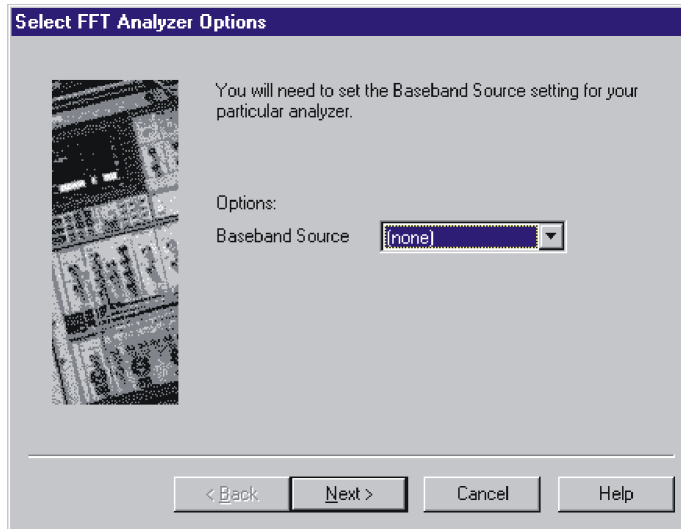

Figure 1-25 Select **(none)** in Baseboard Source
- 8 From the **Baseband Source** pull-down list in the **Select FFT Analyzer Options** box, select **(none)**. See Figure 1-25.